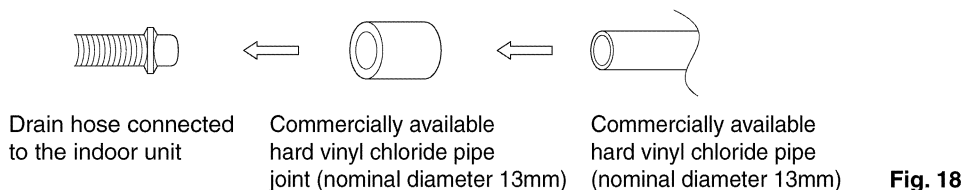

Fig. 18
- When directly connecting a hard vinyl chloride pipe joint (nominal diameter 13mm) to the drain hose connected to the indoor unit (i.e. for embedded piping, etc.), use a commercially available hard vinyl chloride pipe joint (nominal diameter 13mm). (Refer to Fig. 18)